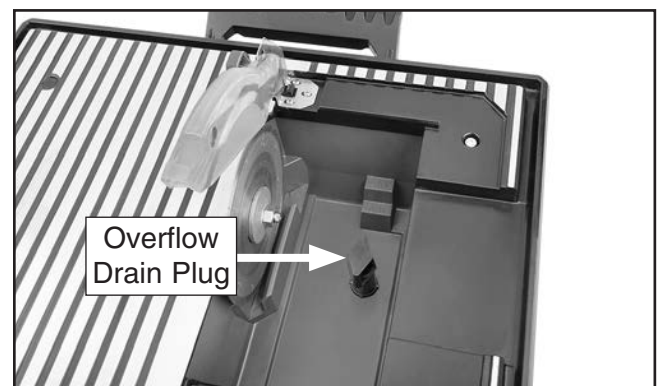

Figure 9. Overflow drain plug installed.
7. Insert overflow drain plug into hole at bottom of water bath and push firmly to secure (see **Figure 9**).